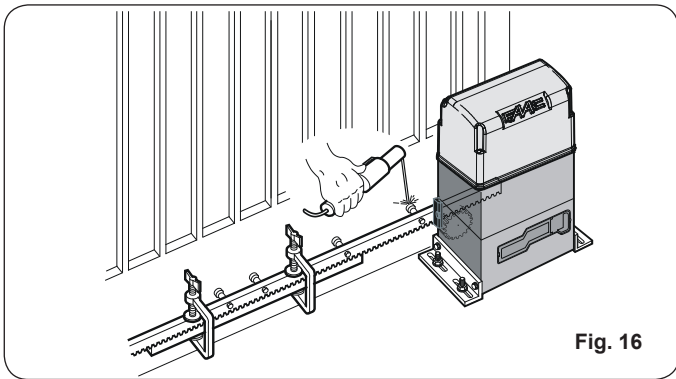

Fig. 16
5. Place another rack element next to the previous one, use a third piece of rack (as shown in Fig. 16) to synchronize the teeth of the first two elements.